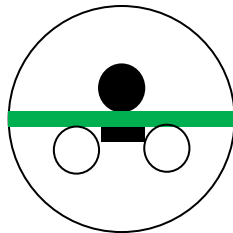

Figure 4 – DeadEasy HMI Orientation
12. Install the DeadEasy Indicator (DE32HMI) with RightSwitch Field PCB (RS32F) attached, into the Field Panel using the orientation shown in Figure 4.
9. Install the DeadEasy Indicator (DE32HMI) with RightSwitch Field PCB (RS32F) attached into the Field Panel using the orientation shown in Figure 4.